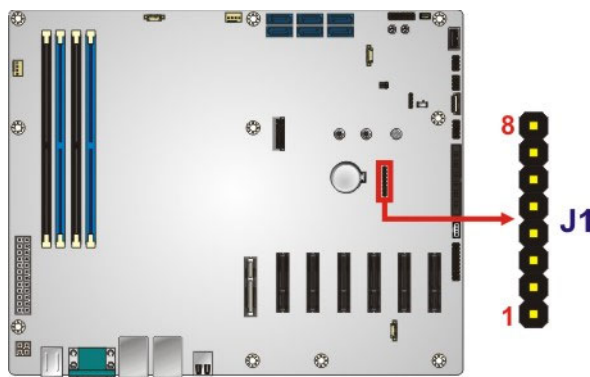

Figure 3-7: CPLD Flash Connector Location
- CN Location:** See Figure 3-7